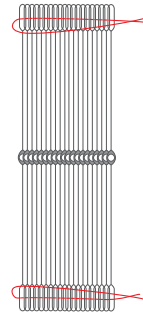

FIGURE 6: THREADING HEDDLES ONTO STRING
12. Determine how many heddles you want on each shaft. Count out the desired number, then thread a string through the holes at each end of the heddles and tie them (Figure 6). String a group of heddles for each shaft.